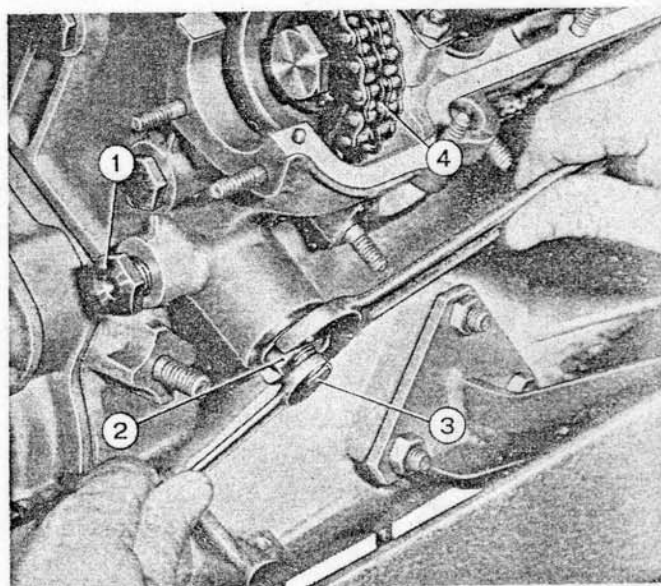

Fig. 26. - Adjusting timing chains.
- loosen the stretcher screw (1, fig. 26);
- loosen the stretcher spindle nut (2);
- working on the spindle (3), spread the chain correctly;
- lock the spindle in position with the nut (2).